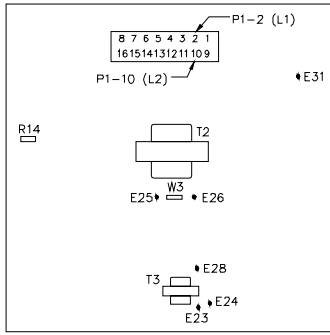

FIGURE 4A
**Note:** Step 10 is applicable for models that have R14 installed in the off-hook detection circuitry. See applicable models and associated boards in Figures 4A, 4B, and 4C for listing.